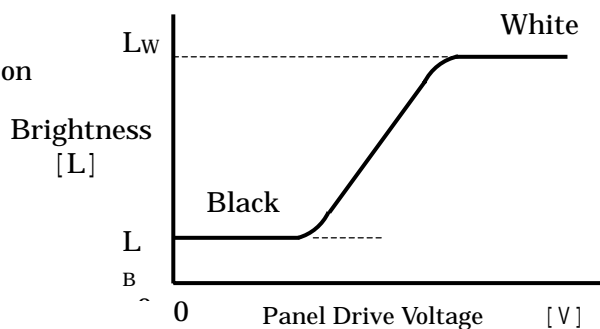

Figure 9-3 Voltage-Brightness Characteristics
Determined by Formula (1) based on Figure 9-3 Voltage-Brightness characteristics. Br
Determined by Formula (1) based on Figure 9-3 Voltage-Brightness characteristics.